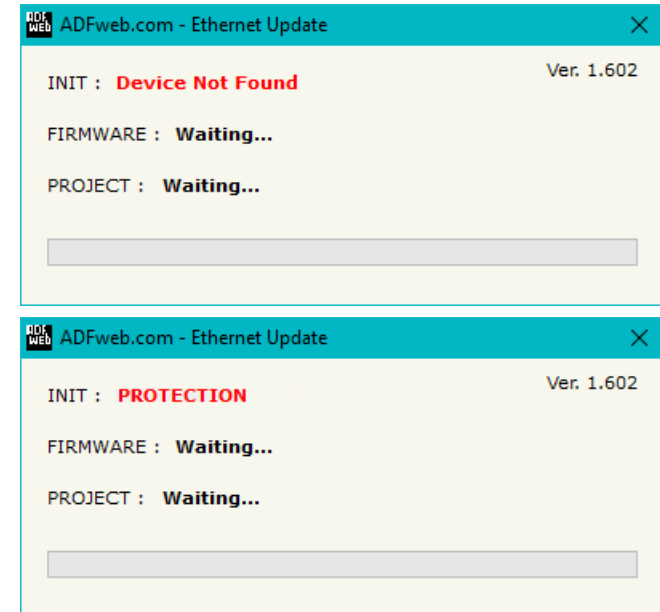

Figure 8: "Error" window
- In the field **“Eng. Unit”**, with double click the window *“Select the BACnet Engineering Unit”* appears (Fig. 8);
If Fig. 8 appears when you try to do the Update try these points before seeking assistance: